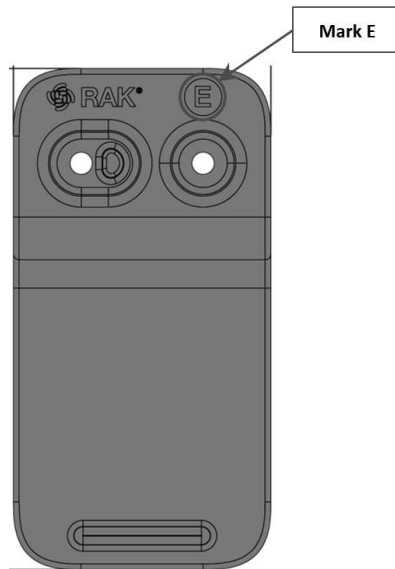

Figure 23: Mount accessory marked with the letter E
1. For belt clip mount, use one (1) piece of mount accessory with an indicator marked with the letter **E**, as shown in **Figure 23**.